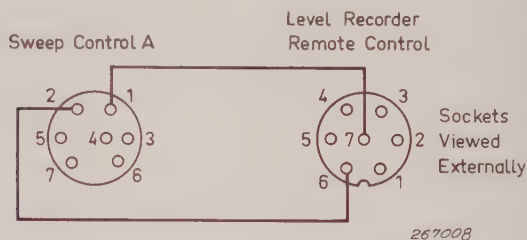

Fig. 5.1. To control the Level Recorder from the Sine-Random Generator connect the two instruments as shown here. Both sockets viewed externally.
- d. Interconnect Level Recorder's REMOTE CONTROL socket with the 1042's SWEEP CONTROL A as illustrated in Fig. 5.1.